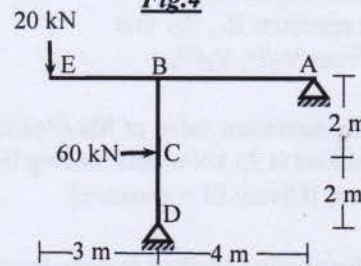

Fig.5
- Using Force Method, draw the bending moment diagram of the frame shown in **Fig.5** [Given: $EI=$ Constant].